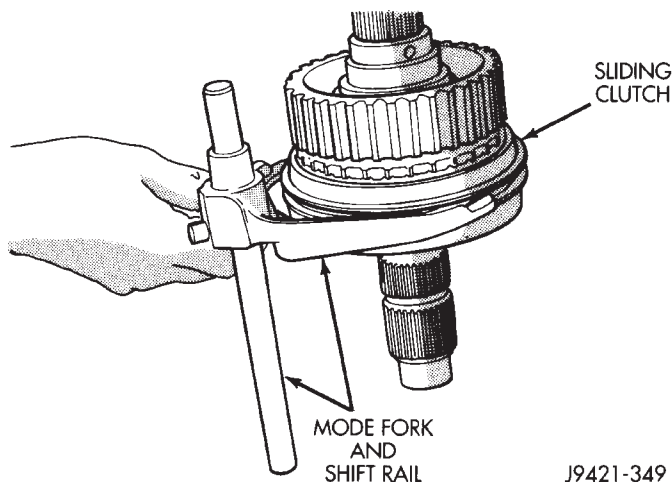

Fig. 82 Assembling Mode Fork And Mainshaft
(6) Install mode fork and shift rail in sliding clutch (Fig. 82).